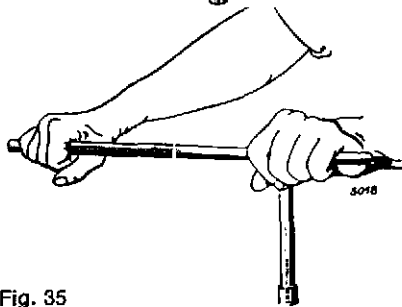

Fig. 35
4. **Tighten the bolts (Fig. 35)** according to the Table on page 34, if necessary in stages, attaining the tightening angles specified.